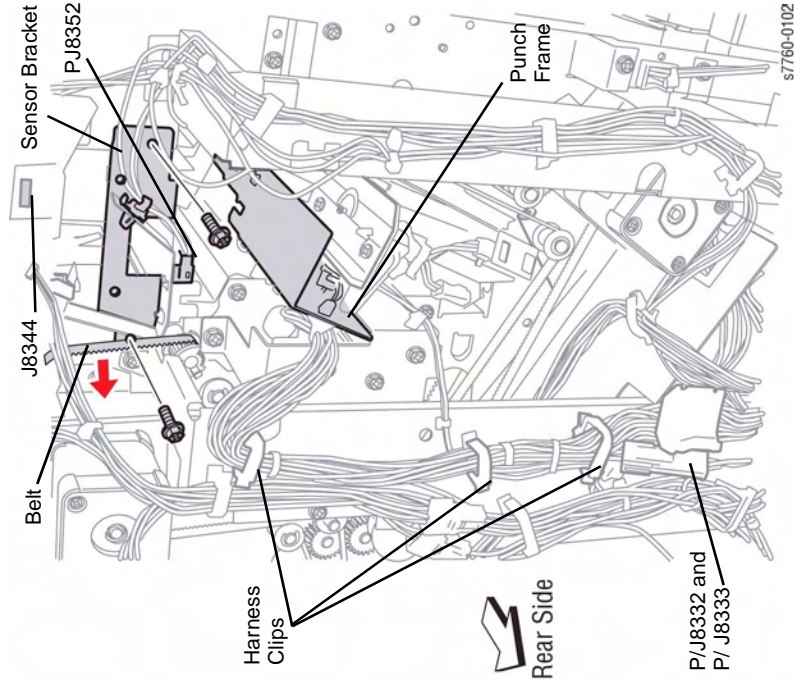

Figure 2 Removing the Punch Frame Assembly (Rear Side of Finisher)
5. Removing the Punch Frame Assembly (Figure 2).